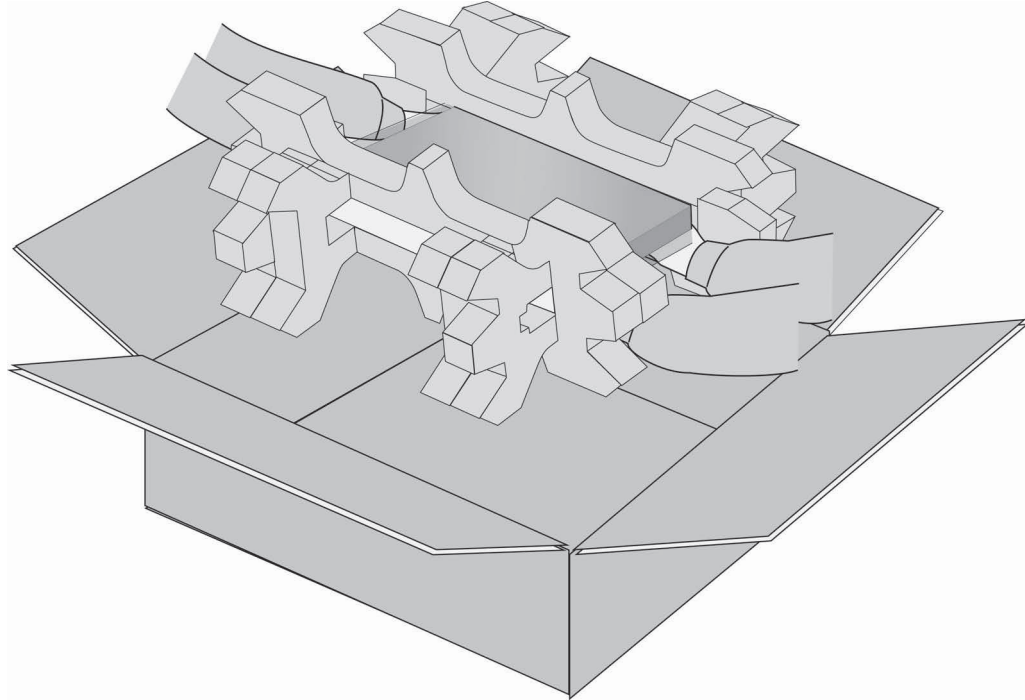

Figure 32. Lifting the Switch from the Shipping Box
3. Lift the switch from the shipping box and place it on a level, secure table. Refer to Figure 32 on page 91.